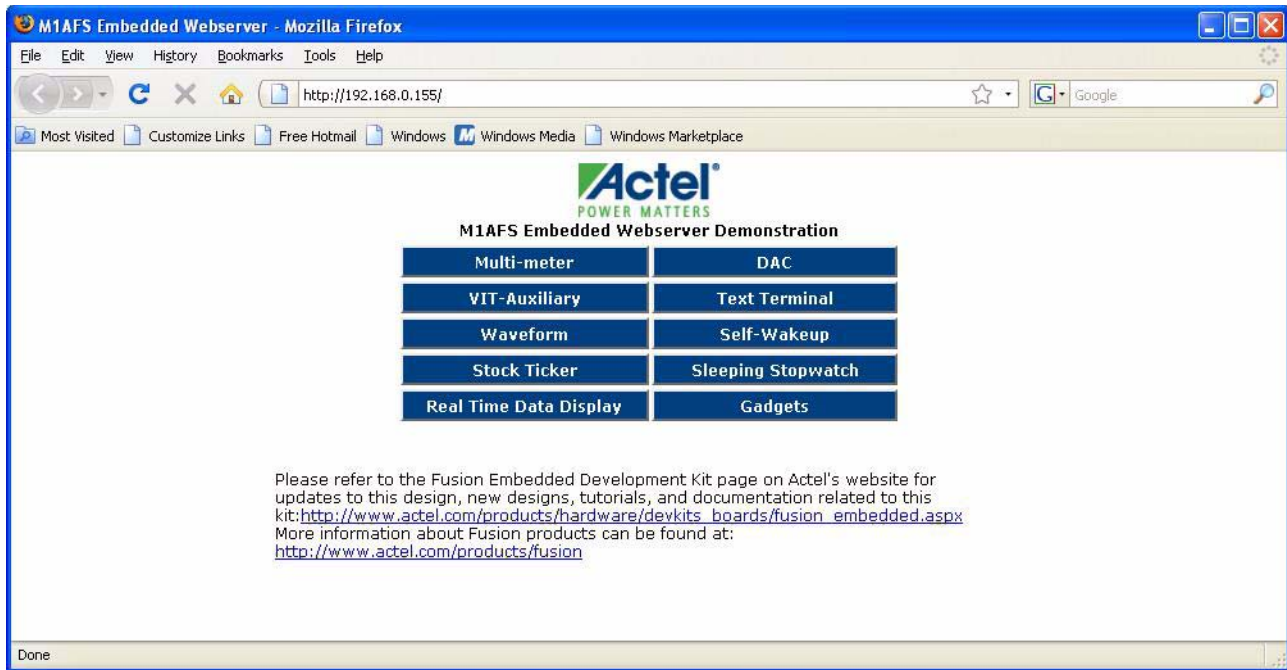

Figure 2-19 · Home Page
15. The Webserver home page with various demonstration modes displays in the browser (Figure 2-19).
14. The Webservice home page with various demonstration modes displays in the browser (Figure 2-19 on page 21).